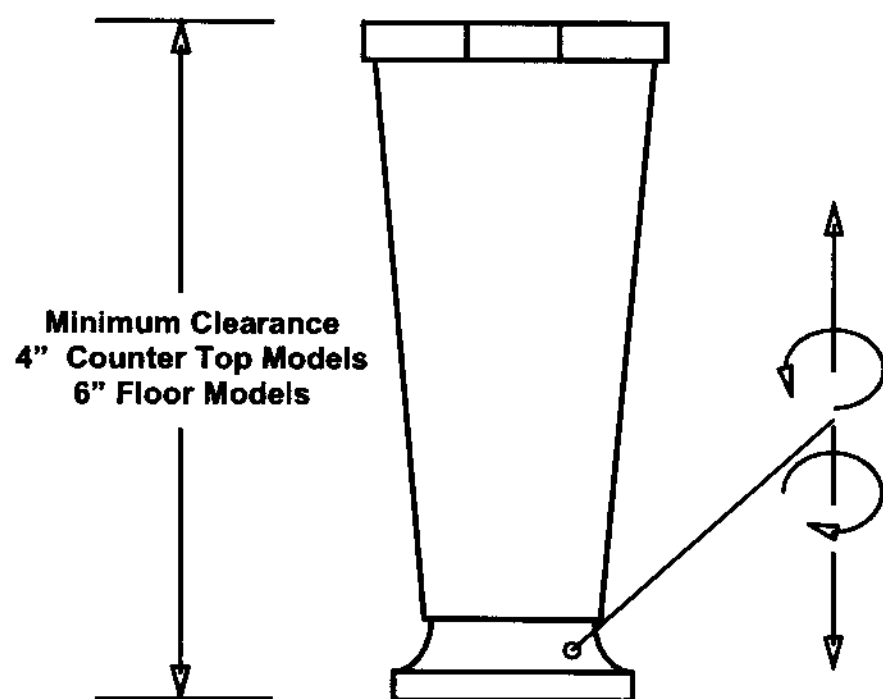

Fig. 1
2. Place the machine in the desired location and level the unit by turning the bottom part of each leg clockwise or counterclockwise (Fig. 1). The machine **MUST** be level to operate properly. **THIS UNIT MUST NOT BE OPERATED WITHOUT THE CASTERS OR OPTIONAL LEGS INSTALLED.**